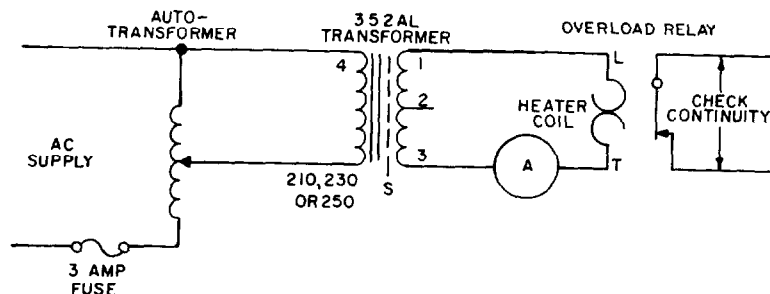

Fig. 13 — Test Circuit for Checking Overload Relays
- (1) This procedure applies for the test requirement of single-phase starters and 3-phase starters having a full-load motor current of 25 amperes or less.
- (2) Open the ac supply at the switch and fuse unit by removing fuses or opening the motor circuit disconnect switch. Where current in excess of the output rating of the autotransformer is required, a transformer should be added as shown in Fig. 13. If the 352AL transformer is used, terminals 1 and 3 are connected to the L and T terminals of the overload relay; terminals 4 and 210, 230, or 250, depending on line voltage, are connected to the output of the autotransformer. With the above arrangement, current up to 62-1/2 amperes at 2.5 volts ac can be obtained by manipulation of the autotransformer. With the test autotransformer, adjust the current to the required value.
- (3) If no current flows when voltage is applied with the autotransformer, replace the heater coil. If the adjustable relay does not operate within 5 minutes, readjust the relay as covered in 3.19. Reset the relay after test. For 3-phase starters, repeat for the other heater coils.